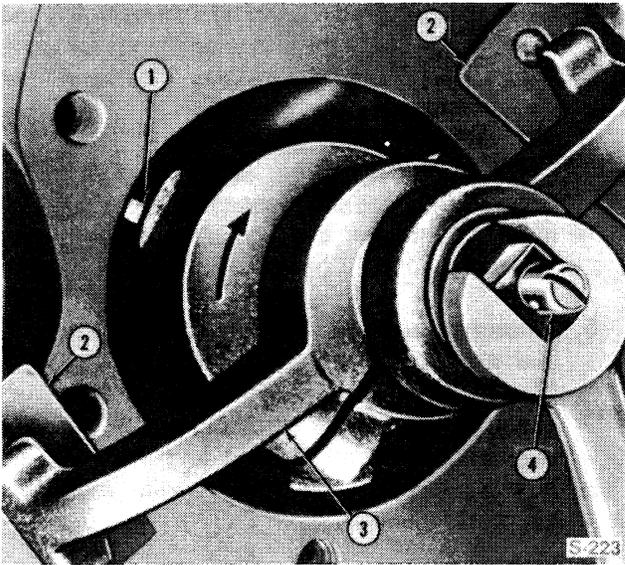

Figure 31
1. If necessary, remove any ridge from the top of the cylinder bores with a cylinder ridge reamer, Figure 31. Do not cut down into the piston ring travel area.